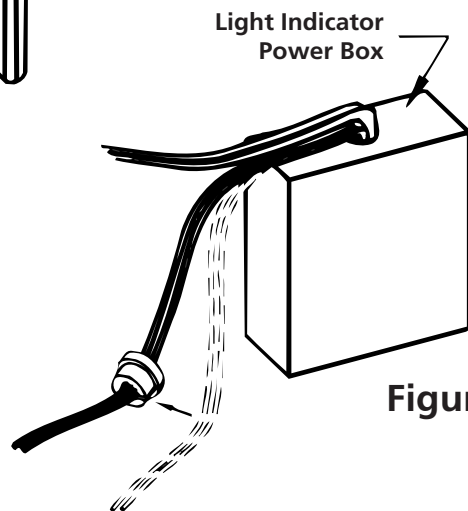

Figure 2
- B. Place the rubber grommet provided on the wire of the indicator between the power box and the LED light **Figure 2**.